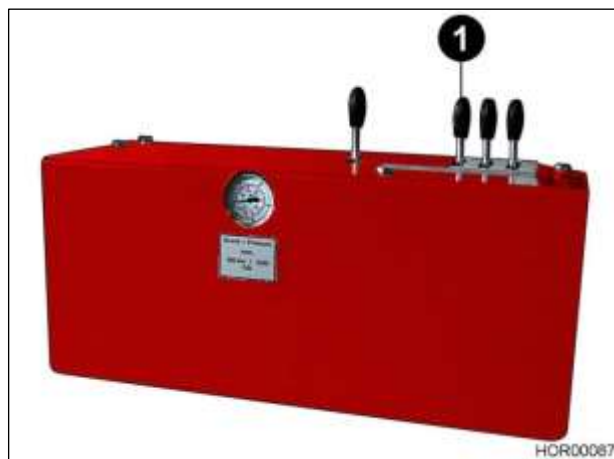

Bild 29 Control panel, hydraulic pressure unit
- Retract the hydraulic cylinder piston completely by pulling the lever (Bild 29/1).
- Fully extend/retract the hydraulic cylinder by pulling and pushing the lever (Bild 29/1).